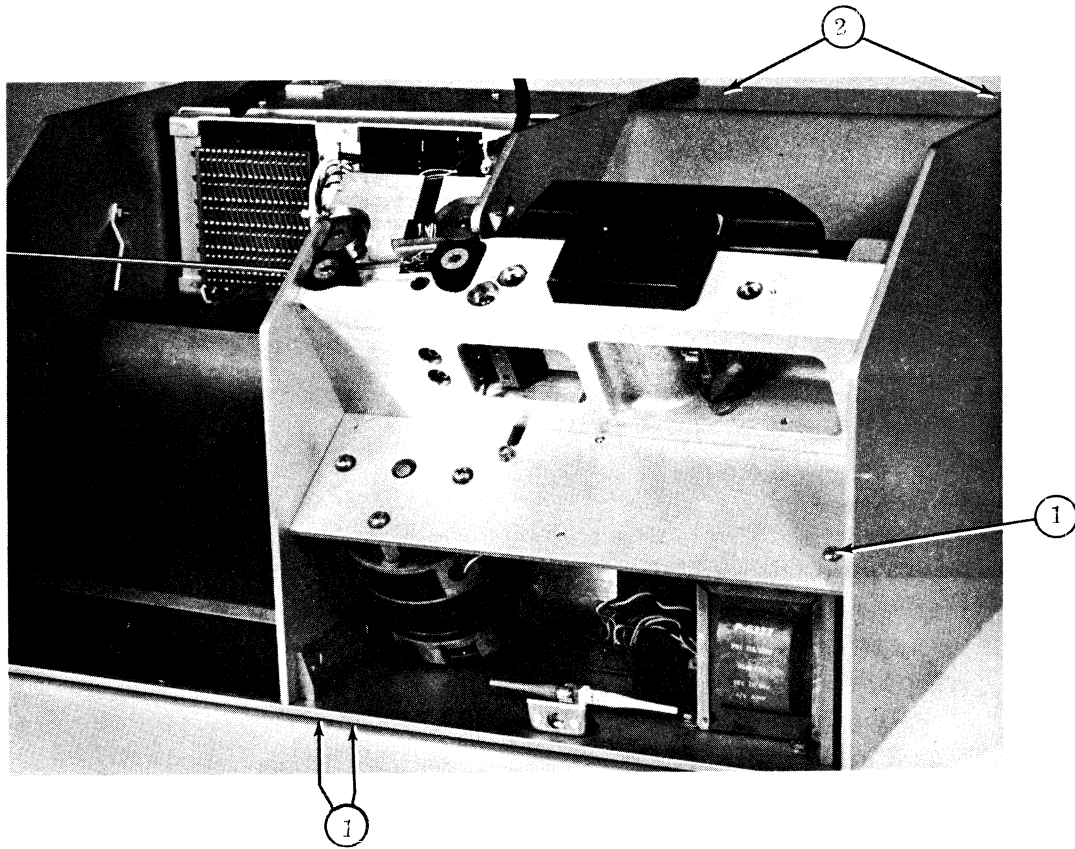

Figure 9-4. Front View, Main Mounting Plate Removal
- o. Using a Phillips screwdriver, remove three screws ⑧; one from main mounting plate, and two from under mainframe, figure 9-4.
- p. Using a flat blade screwdriver, remove two screws ⑨ from top of main mounting plate.